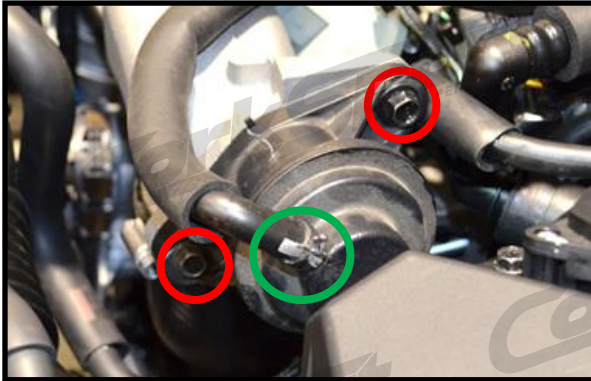

Figure 1b
- b) With a pair of pliers, pull back the vacuum signal spring clamp, and remove the vacuum line (green circle **Figure 1b**).
- d) Using a 10mm socket wrench, remove the two 10mm bolts holding the bypass valve onto the intercooler inlet pipe (red circle **Figure 1b**).